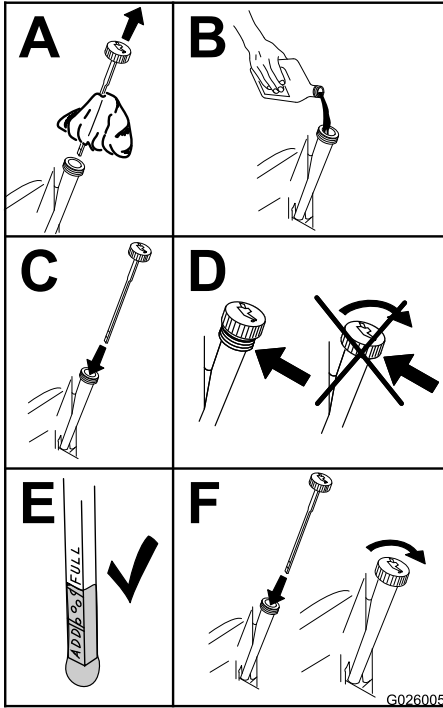

Figure 42
- Slowly pour approximately 80% of the specified oil into the filler tube, and slowly add the additional oil to bring it to the **Full** mark (Figure 42).